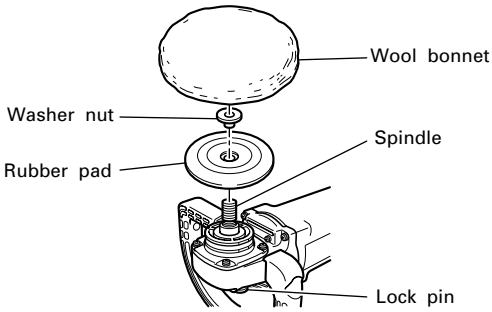

Fig. 5
2. For Polisher operation (Fig. 5)